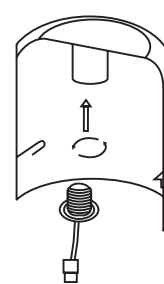

Figure 4.1
5. Screw medium base adapter into existing medium base socket in CAN (Fig 4.1).